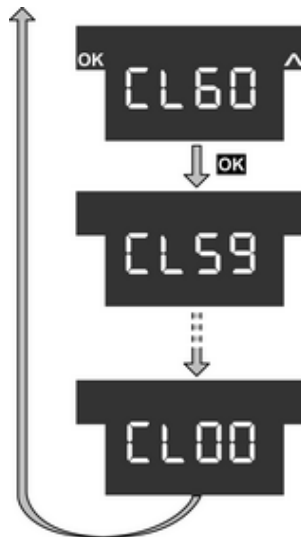

Figure 9
- Press the sensor button **▲** to select menu item **CL60** for the cleaning function and then press the sensor button **OK**(Figure 9).